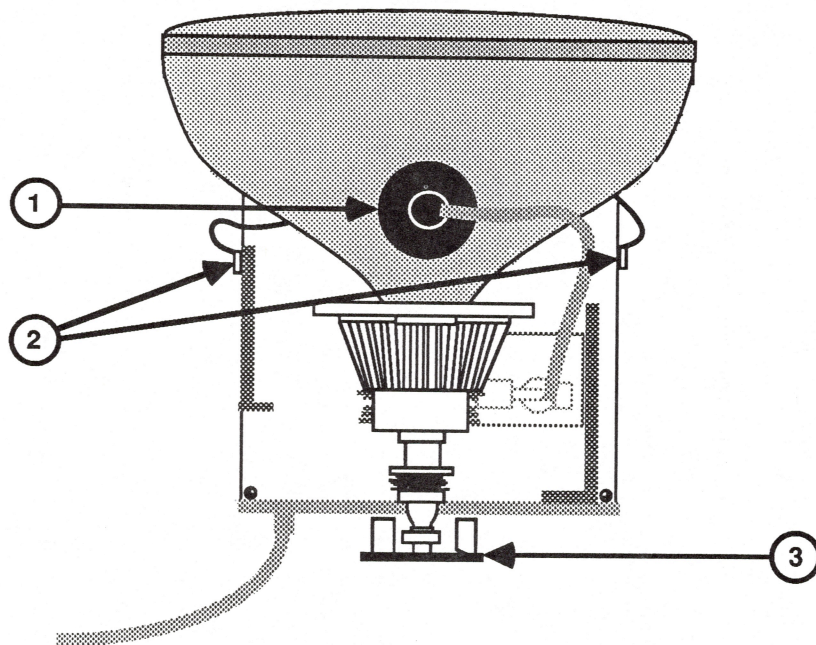

FIGURE 16
5. Replace the CRT socket board (Figure 16, #3). It fits only one way.
7. Replace the anode cap (Figure 16, #1).
8. Replace the screws (Figure 16, #2) to secure the CRT ground straps to both sides of the main chassis.